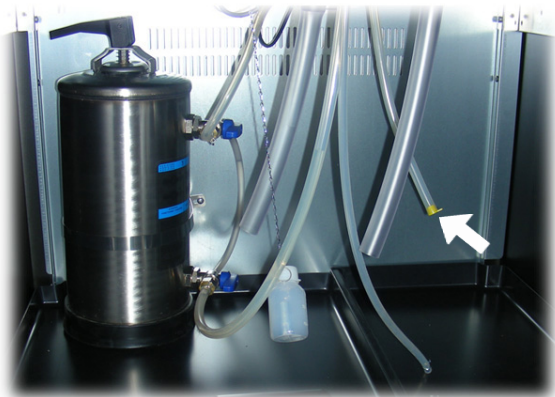

Fig. 104
- empty the instant product boiler and the AIR BREAK. Remove the pipe cap (Fig. 104) and channel the water into a container. After draining the pipe completely, fit the cap back into its original position;